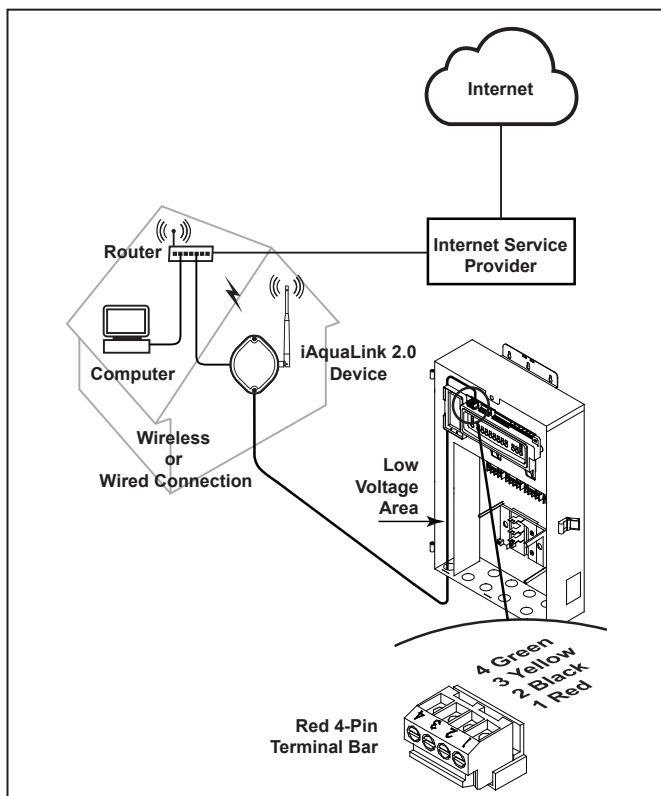

Figure 4. iAquaLink 2.0 J-Box Indoor Installation
3. Install the iAquaLink 2.0 device at least six (6) feet (1.8 m) above the ground and at least five (5) feet (1.5 m) away from other transceiver J-boxes.
5. Pull cable through the knockout and into the low voltage area. See Figure 4.
7. Strip each wire ¼" (6 mm) and connect to the red, wire connector on the power center PCB. A multiplex kit (P/N 6584) may be required if there are more than two (2) cables running to a red, wire connector on the power center PCB.